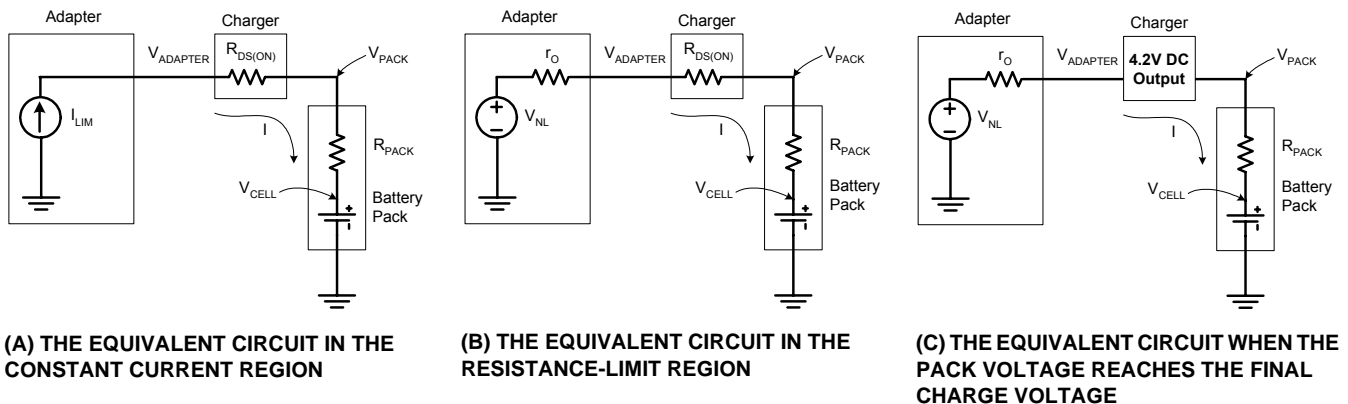

FIGURE 25. THE EQUIVALENT CIRCUIT OF THE CHARGEING SYSTEM WORKING WITH CURRENT LIMITED ADAPTERS
When charging in the constant-current region, the pass element in the charger is fully turned on. The charger is equivalent to the on-resistance of the internal P-channel MOSFET. The entire charging system is equivalent to the circuit shown in Figure 25 (A). The charge current is the constant current limit  $I_{LIM}$ , and the adapter output voltage can be easily found out as,
When the above condition is true, the charger enters the constant-voltage mode simultaneously as the adapter exits the current-limit mode. The equivalent charging system is shown in Figure 25 (C). Since the charge current drops at a higher rate in the constant-voltage mode than the increase rate of the adapter voltage, the power dissipation decreases as the charge current decreases. Therefore, the worst case thermal dissipation occurs in the constant-current charge mode. Figure 26 (A) shows the I-V curves of the adapter output, the battery pack voltage and the cell voltage during the charge. The 5.9V no-load voltage is just an example value higher than the full-load voltage. The cell voltage 4.05V uses the assumption that the pack resistance is 200m $\Omega$ . Figure 27 (A) illustrates the adapter voltage, battery pack voltage, the charge current and the power dissipation in the charger respectively in the time domain.
is shown in Figure 25(B). Eventually, the battery pack voltage will reach 4.2V (or 4.1V) because the adapter no-load voltage is higher than 4.2V (or 4.1V), then Figure 25(C) becomes the equivalent circuit until charging ends. In this case, the worst-case thermal dissipation also occurs in the constant-current charge mode. Figure 26 (B) shows the I-V curves of the adapter output, the battery pack voltage and the cell voltage for the case  $V_{FL} = 4V$ . In the case, the full-load voltage is lower than the final charge voltage (4.2V), but the charger is still able to fully charge the battery as long as the no-load voltage is above 4.2V. Figure 27 (B) illustrates the adapter voltage, battery pack voltage, the charge current and the power dissipation in the charger respectively in the time domain.